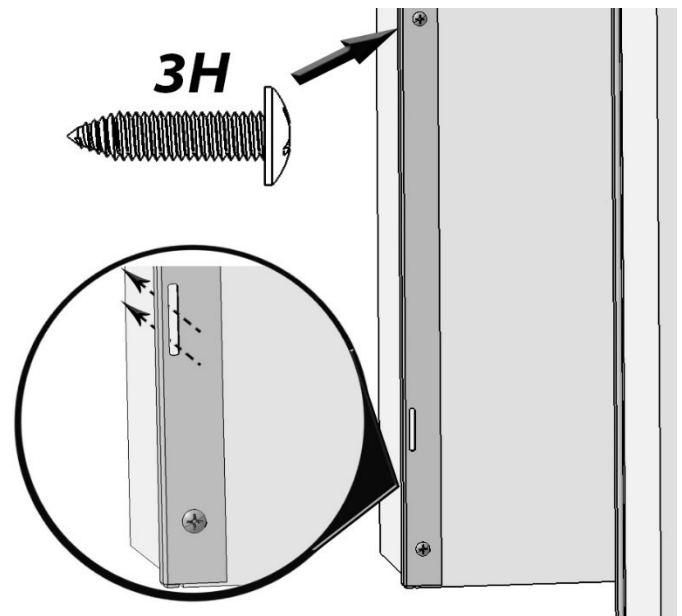

Figure 15
5. Using eight 3H screws and a power drill, attach the two Side Trim Attachment brackets to the front left and right cabinet cut-out edges with the brackets touching the floor (Figure 15). Ensure that the rectangular slots extend over the cabinet edge.